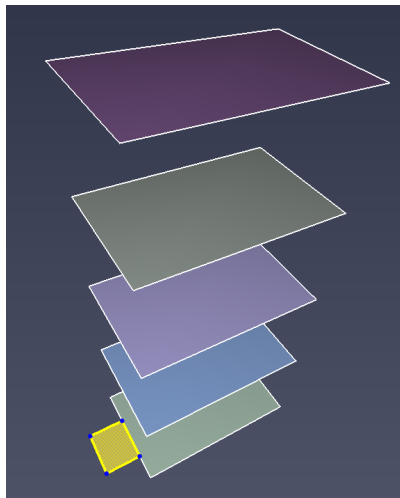

Figure 54. Draw elevator room geometry
1. Draw a room that defines the shape of the elevator, preferably on the discharge floor, see Figure 54.